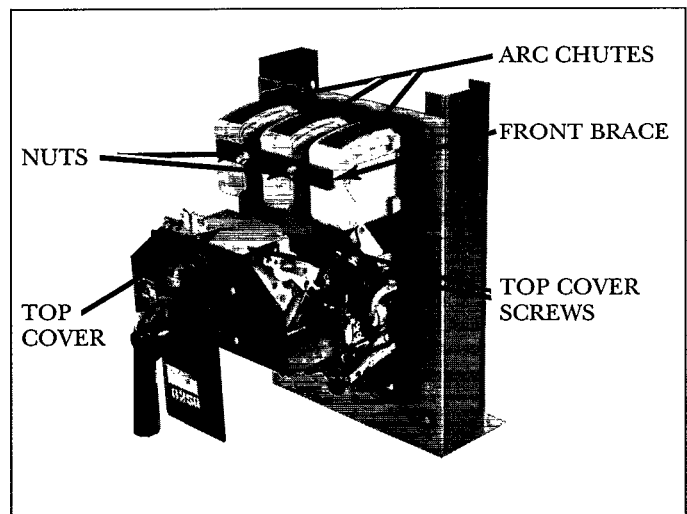

Fig. 1. Arc Chutes
Remove the arc chutes (one per phase) by removing the (2)  $\frac{1}{16}$ -18 nuts holding the front brace using a  $\frac{1}{16}$  wrench. The front brace (Fig. 1) holds the arc chutes in place. Save the arc chutes, nuts, and retainer brace for reuse.
Remove the (4) small Philips head screws holding the top front cover (Fig. 1). Save the cover and hardware.